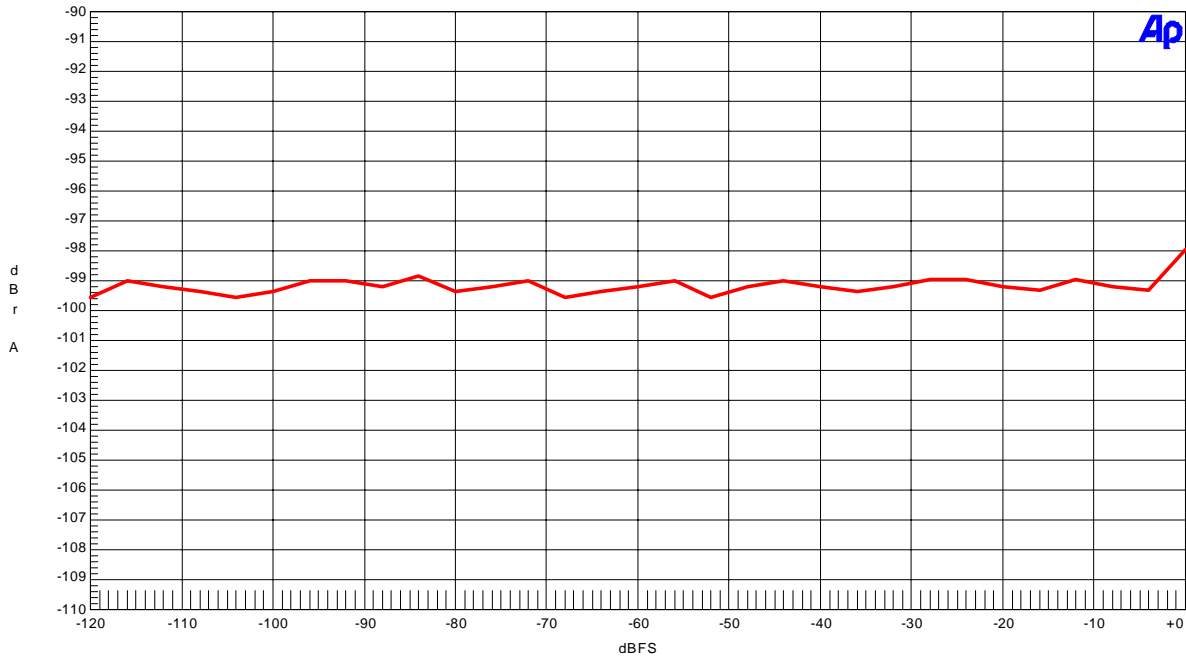

Figure 2-1-1. THD+N vs. Input level
- Figure 2-1-1. THD+N vs. Input level